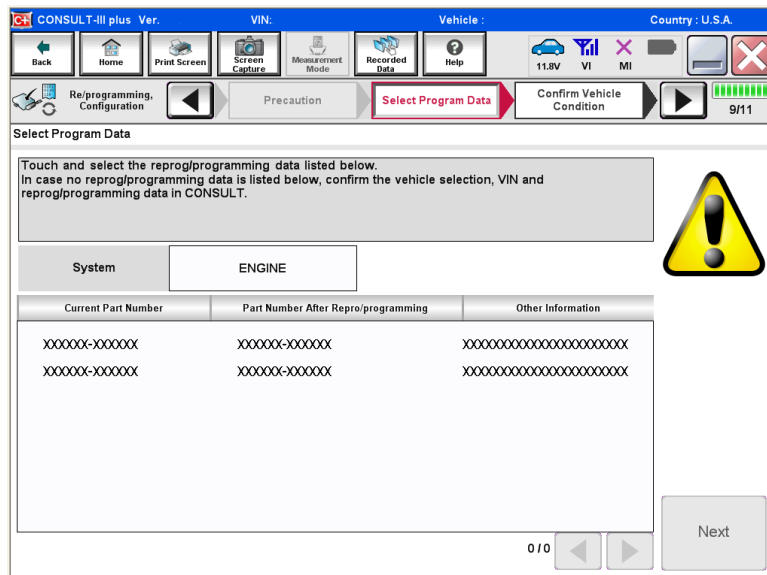

Figure 10
- In this case, the screen in Figure 10 displays.